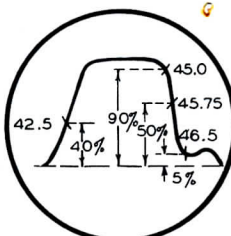

FIG. 4
s. Check all UHF channels for response similar to Fig. 4. If generators and bias supplies.